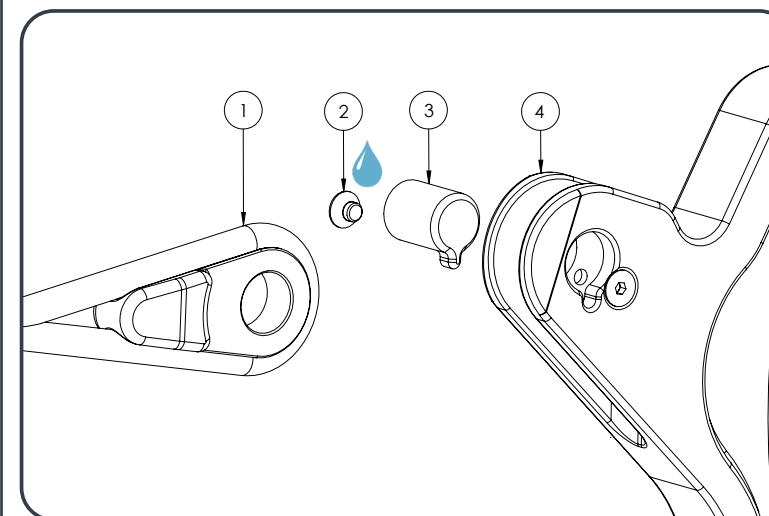

Fig. 2 Attached Thimble with Halyard
5. Thread the halyard eye fitted with the thimble ① through the sail plate ⑨ fitted to the sail (fig.2)
6. Install thimble ① in between gaff lock cheeks ⑤
7. Insert pin ③, rotate until it is seated and secure with fastener ② with a few drops of blue Loctite 423 💧